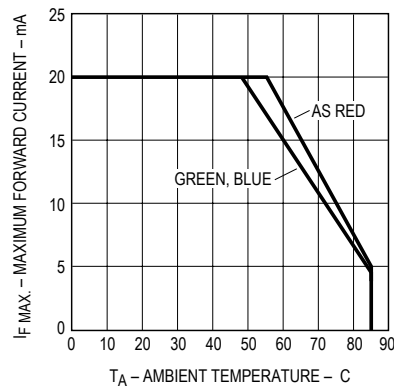

Figure 4. Maximum forward current vs. ambient temperature (1 chip lit up).
3. Derate linearly as shown in Figure 4.